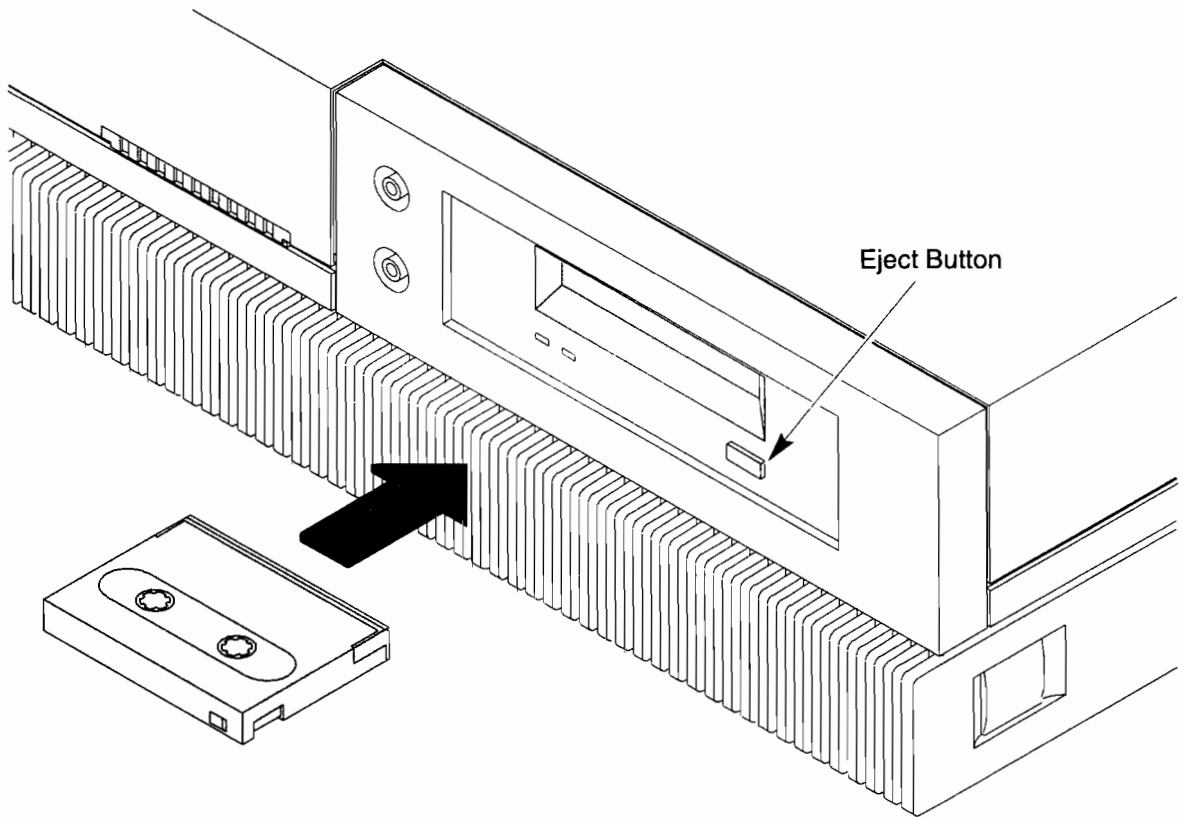

Figure 7-2. Loading a Data Cassette
1. Insert the data cassette into the drive, as shown in Figure 7-2.
- 3.** To remove the data cassette, press and release the eject button on the front of the drive, as shown in Figure 7-2. The LEDs on the drive flash on and off. Ten to twenty seconds later, the data cassette slides partway out of the drive.